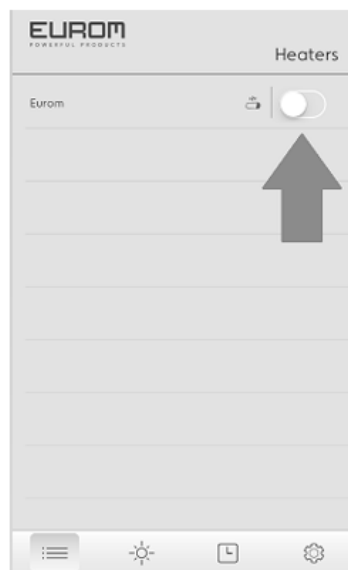

Figure 2
- Move the bar to the right to switch on the device (Fig. 2).